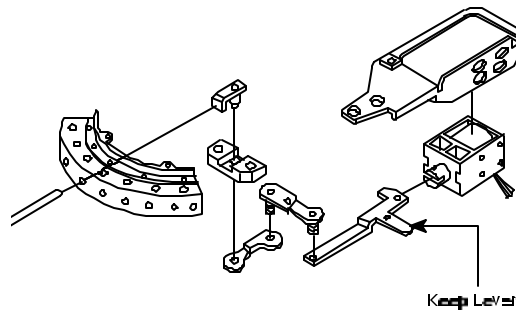

Figure 1
3. **Disengage** Thread Keep Lever. See Figure 1.